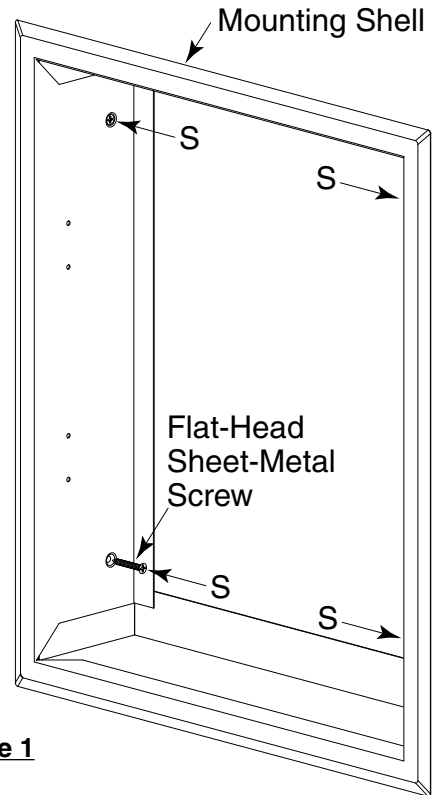

Figure 1
2. Mount the Shell in wall opening with shims between framing and the Shell at four points indicated by an S, then secure the Shell with four #8 x 1-1/4" (4.2 x 32mm) flat-head sheet-metal screws (provided) in the four countersunk holes on the sides of the Shell. (See Figure 1). Ensure that the screw heads do not protrude past the countersink.